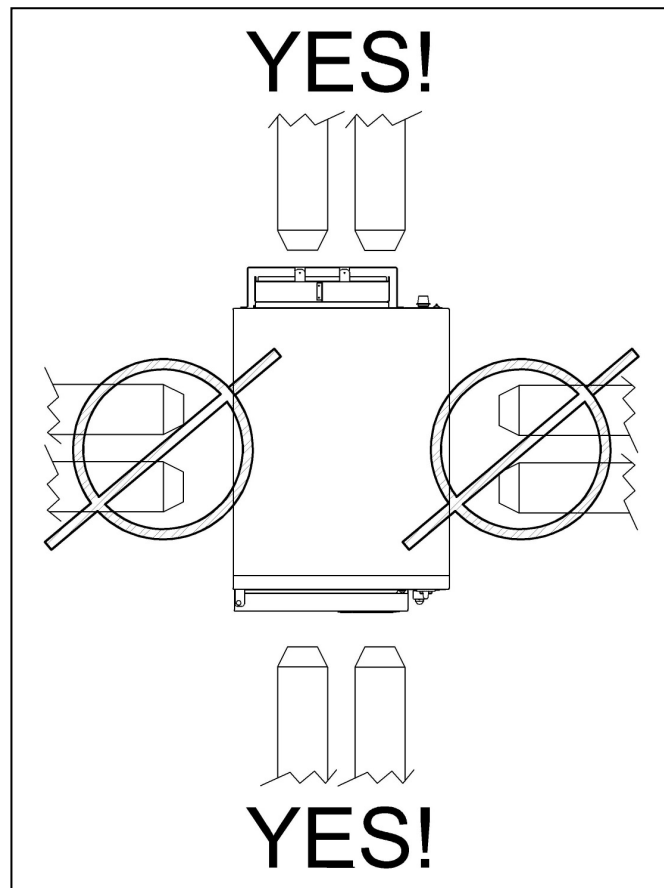

Figure 1-1
| | Figure 1-1, Do NOT Lift from Sides..... | 1 |
- e. The appliance is now ready to be moved to its final location. Lift the appliance off the blocks, and move it to its final location. Do **NOT** lift from sides. See Figure 1-1.